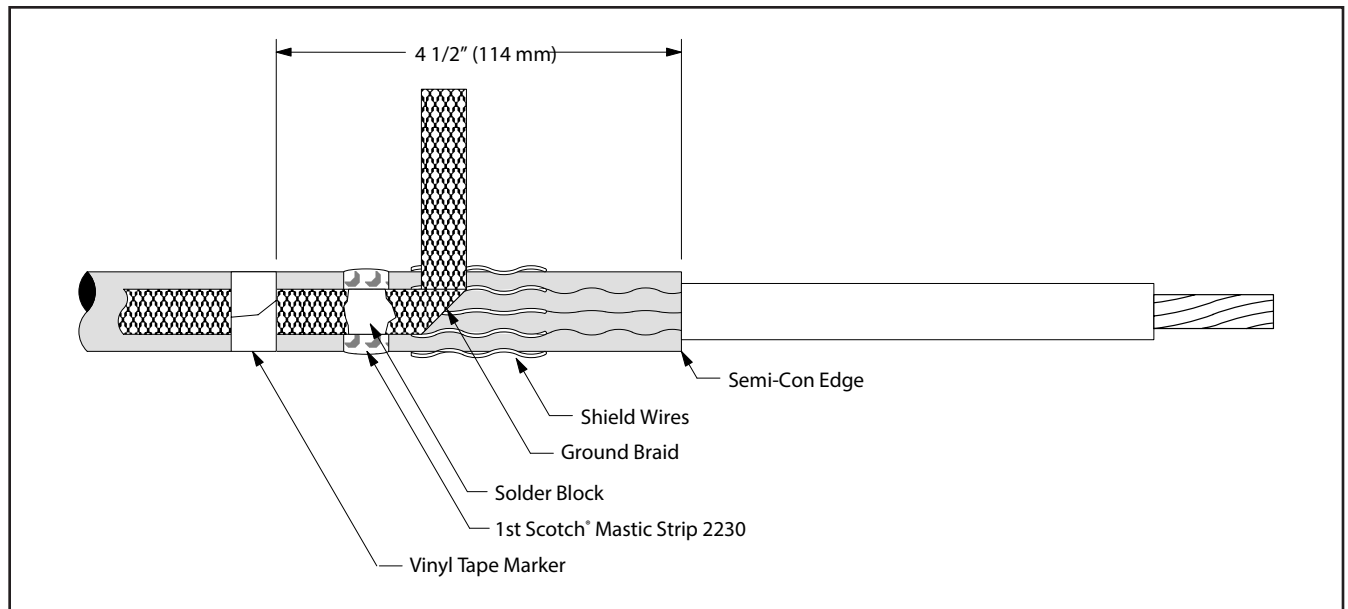

Figure 22
- 13.2 Position pre-formed ground braid with short tail directly over cut edge of folded back shield wires. PLEASE NOTE: The ground braid needs to make full contact with the shield wires. Position long tail of ground braid, extending over cable semi-conductive jacket with solder block over mastic strip (Figure 22). Secure ground braid to cable semi-conductive jacket **4 1/2" (114 mm)** from cable **Semi-Conductive Jacket** edge using vinyl tape (See NOTE and Figure 22).